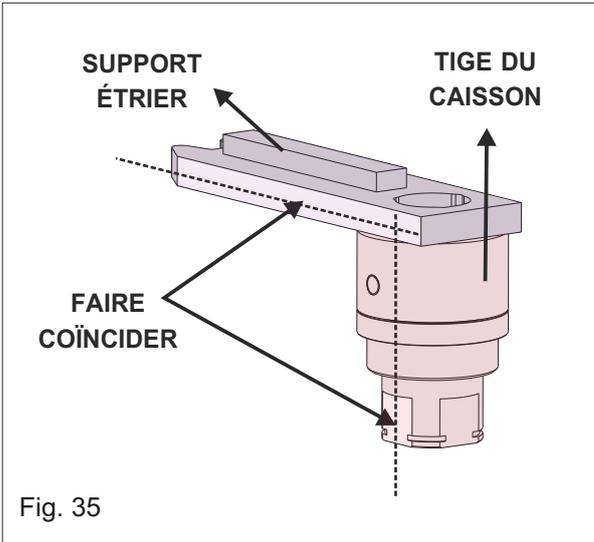

Fig. 35
**AVANT DE SOUDER LES DEUX COMPOSANTS, FAIRE COÏNCIDER L'UN DES PLANS DE LA TIGE AVEC UN CÔTÉ DU SUPPORT (VOIR FIG. 35) POUR ASSURER L'ANGLE MAXIMALE EN CAS D'INSTALLATION DU KIT BUTEE MECANIQUE INTERNE**